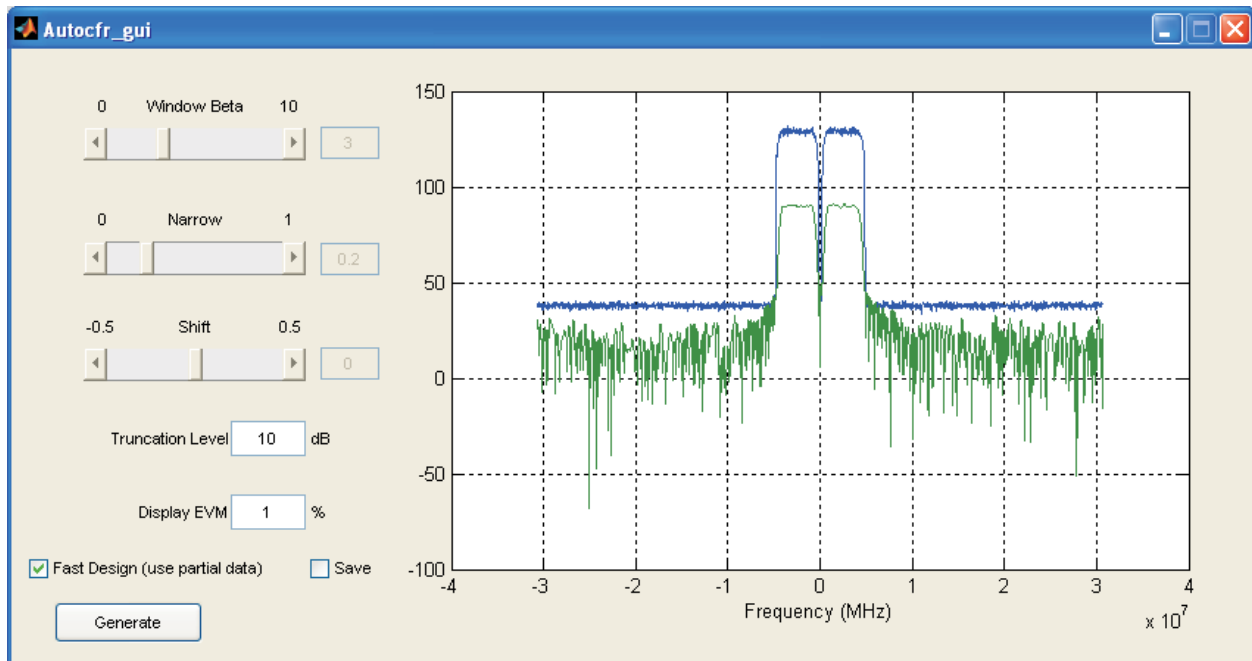

Figure 13. Autocfr_gui Window
6. If the Auto Filter option in the CFR Setup were chosen, the Autocfr_gui window (Figure 13) opens: